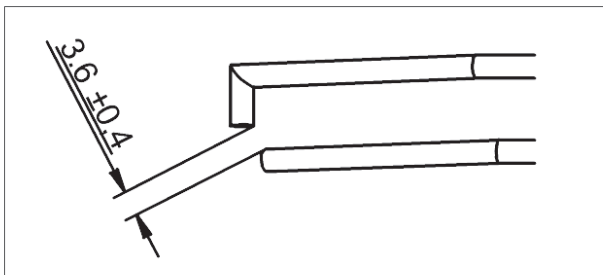

Figure 25 - Distance between the two electrodes
- b. The distance between the two electrodes should be $3.6 (\pm 0.4)$ mm (figure 25).